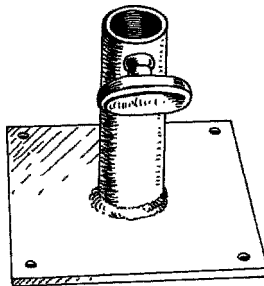

Figure 2.77 Wall plate (junior).
1. Junior wall plates (Figure 2.77) may also be called *set wall brackets*.